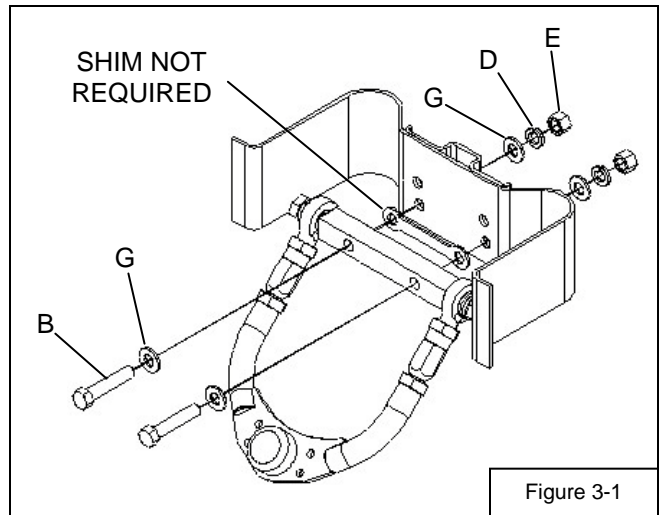

Figure 3-1
18. Bolt upper control arm pivot shaft to shock tower at lowered mounting location (Figure 3-1).